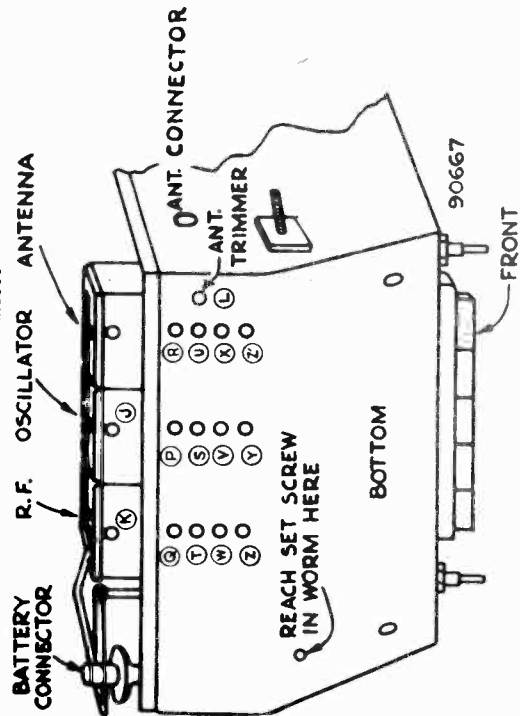

FIG. 6--TRIMMER LOCATIONS
- (e) Adjust the frequency of the signal generator to exactly 1590 K.C. and peak trimmers (Illus. J, K & L, Fig. 6) for maximum signal output, at the same time reducing the signal generator output to as low a value as is consistent with a reliable indication on the output meter.
- (k) Adjust the antenna and R.F. trimmers (Illus. L & K, Fig. 6) for maximum output.
- (d) Turn iron trimmer core screws (Illus. R, U, X, Z, Q, T, W, Z, P, S, V, Y, Fig. 6) in a counter-clockwise direction as far as they will go.
- (g) Turn core screw (Illus. P, Fig. 6) in a CLOCKWISE direction until the FIRST peak is obtained and adjust carefully for maximum reading on the output meter.
- (h) Turn core screw (Illus. Q, Fig. 6) in a clockwise direction until the SECOND peak is obtained if more than one peak can be found and adjust for maximum reading on the output meter, at the same time reducing the signal generator output to as low a value as is consistent with a reliable indication on the output meter.
- (i) Adjust core screw (Illus. R, Fig. 6) as in (h) above.
- (k) Adjust core screw (Illus. S, Fig. 6) as in (g) above.
- (l) Adjust core screws (Illus. T & U, Fig. 6) as in (h) above.
- (n) Adjust core screw (Illus. V, Fig. 6) as in (g) above.
- (o) Adjust core screws (Illus. W & X, Fig. 6) as in (h) above.
- (q) Adjust core screw (Illus. Y, Fig. 6) as in (h).
- (r) Adjust core screws (Illus. Z & Z1, Fig. 6) as in (g).
The most satisfactory method of aligning or checking the "Spread-Band" ranges is on actual reception of short wave stations of KNOWN FREQUENCY, by adjusting the iron oscillator coil for each band (Illus. P, S, V & Y, Fig. 6) so that these stations come in at the correct points on the dial. (Note: Repeat R, F & Ant.)